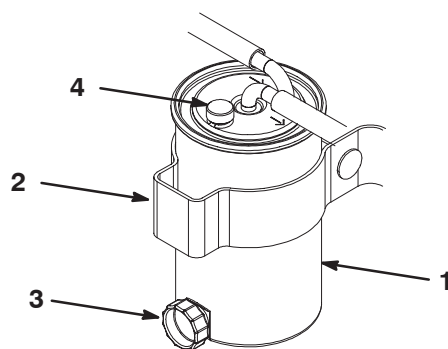

Figure 48
1. Clean the area where the filter canister mounts (Fig. 48).
4. Open the filter drain plug and breather valve (Fig. 48).